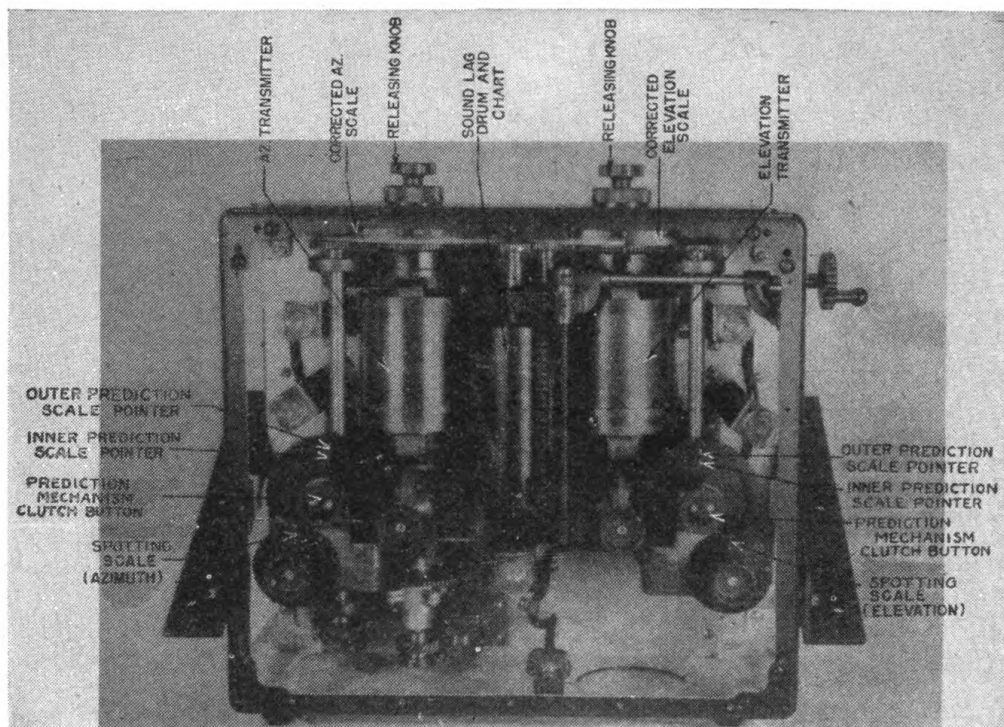

FIGURE 20.—Acoustic corrector M1.
Q. Give the nomenclature of the M1 acoustic corrector. *A.* See figure 20.